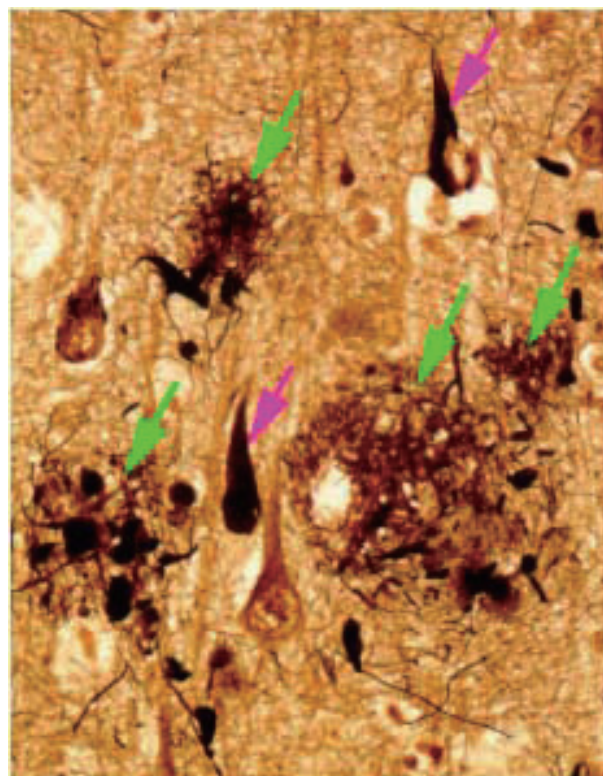

Figure 1. Neuropathology of Alzheimer's disease Green and pink arrows denote senile plaques (amyloid deposits) and neurofibrillary tangles, respectively.
Deposition of amyloid β peptides (A β) as senile plaques is the most characteristic neuropathological feature of Alzheimer's disease (AD), which is implicated in its pathogenesis and deemed as the prime target for the disease-modifying therapy (DMT) [1] (Figure 1). A β deposition is determined by the production and clearance. A β is produced by sequential proteolytic cleavages by β - and γ -secretases. γ -Secretase, harboring presenilins (PS) as the catalytic center, forms the C terminus of A β that determines its propensity to aggregate: missense mutations in PS genes cause familial AD by altering the preferred γ -secretase cleavage sites in a way to increase production of pathogenic A β 42 species [2,3]. γ -Secretase forms a hydrophilic pore within the membrane lipid bilayer, which enables the unique mode of intramembrane proteolysis to form A β , and inhibitors of β - and γ -secretases with different targets and mode of action are being developed. A β immunotherapy facilitates the clearance of A β from brain parenchyma through the activities of anti-A β antibodies with different characteristics. Efforts to clinically develop the DMTs for AD, including establishment of imaging and fluid biomarkers that surrogate the AD pathology through clinical studies like AD Neuroimaging Initiative (ADNI) and Japanese ADNI are currently underway.